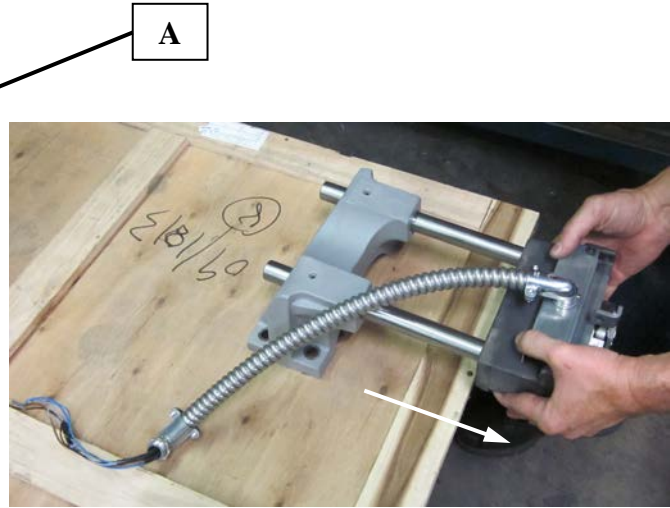

Figure 5
- After placing brake assembly on a work surface slide brake off of mount to service, replace, or make repairs. See Figure 5.